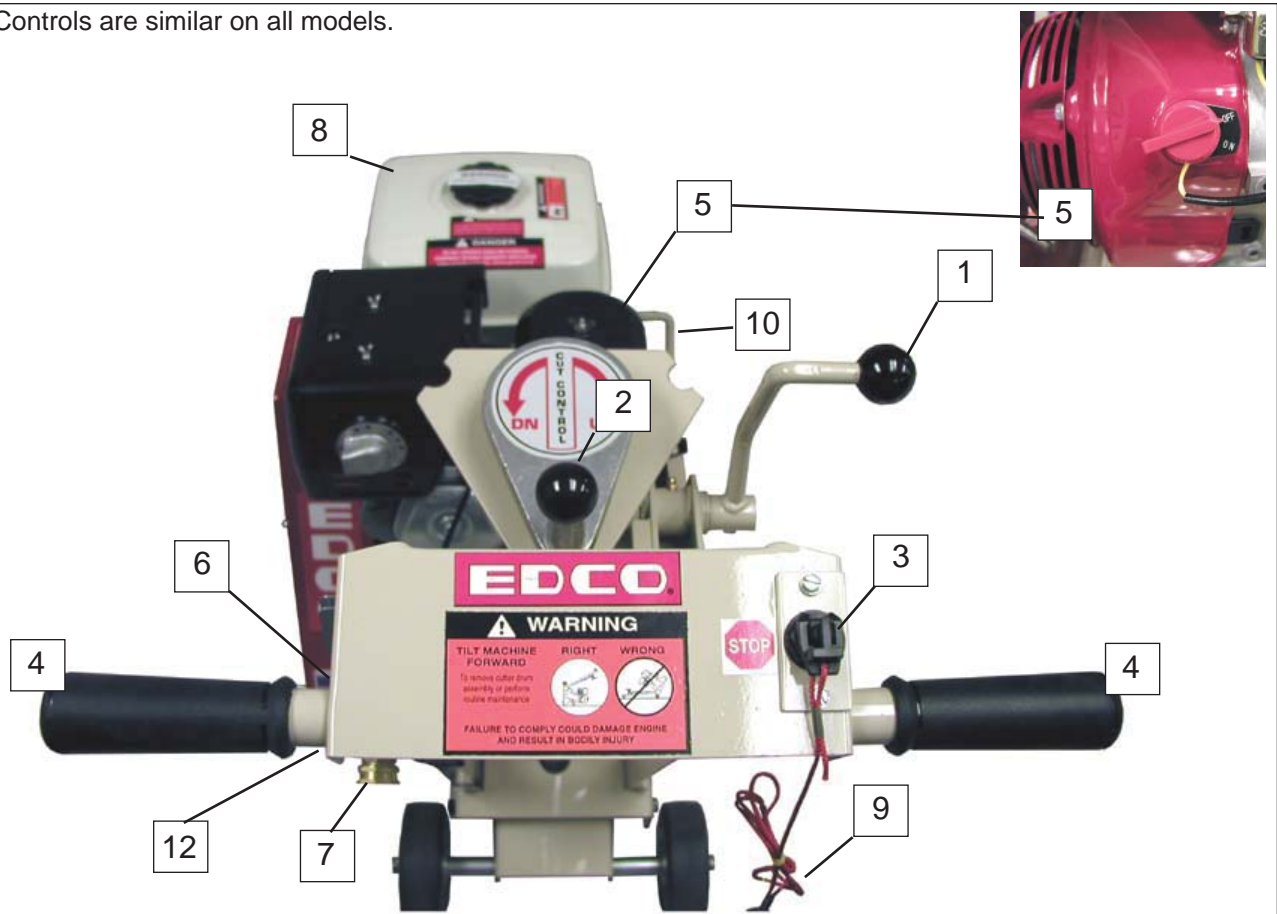

Figure 2
- Slowly lower the cutter head to the slab surface with the cutter head lever. (Figure 2, Item 1) & (Figure4)